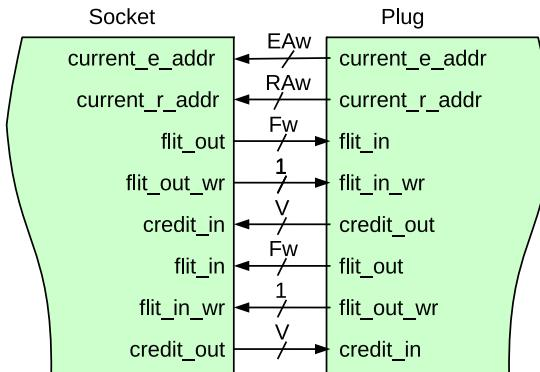

Figure 2.5: NI socket/plug interfaces.
This interface connects the Network-on-Chip (NoC) router and the NoC interface adapter module (NI). Figure 2.5 illustrates this interface.